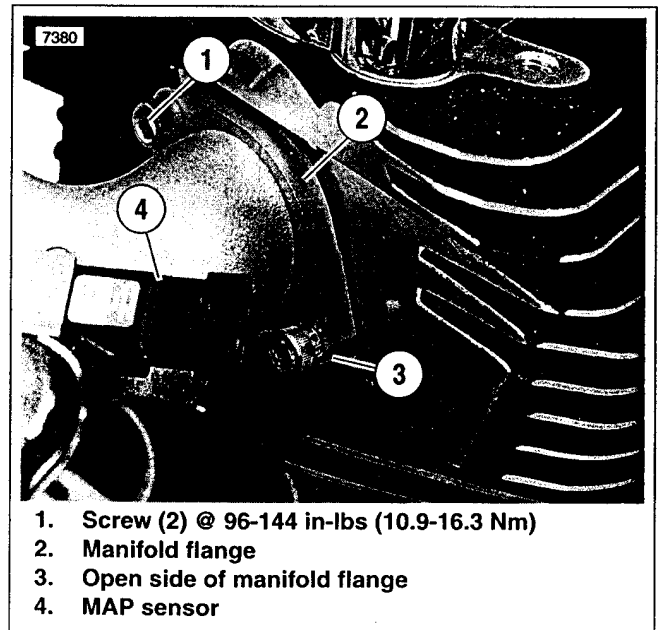

Figure 4-4. Flange Screws
3. See Figure 4-4. Tighten manifold mounting screws (1) to 96-144 in-lbs (10.9-16.3 Nm).